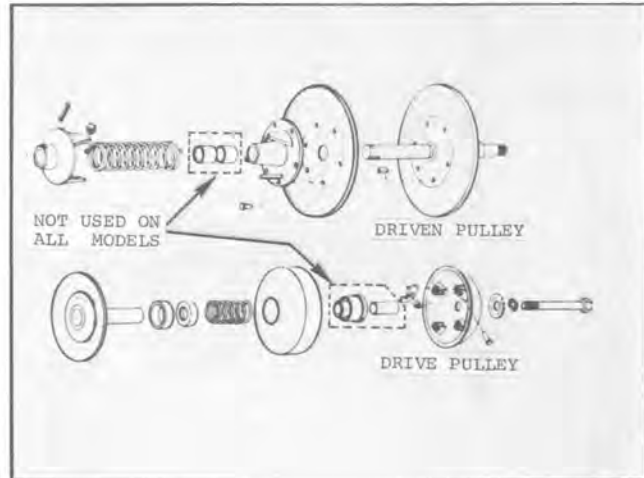

Fig. 9 - Drive and Driven Pulleys Disassembled
1. Remove parts as shown in Fig. 9.
3. Reassembly in order shown in Fig. 9.